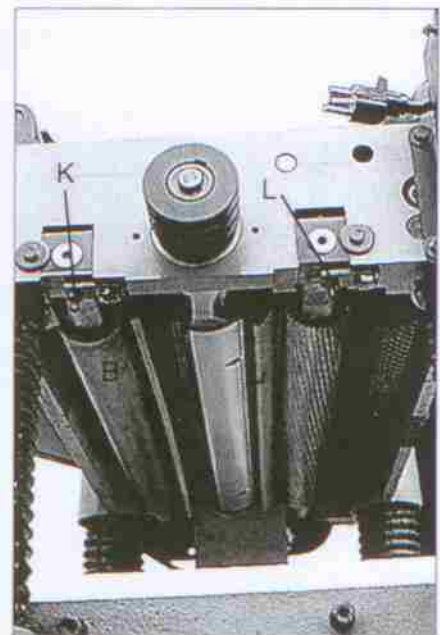

Fig.32
4. Move the gage block under one end of the outfeed roller (B) as shown in Fig.32. The bottom of the outfeed roller should just touch the top of the gage block. If an adjustment to the outfeed roller is necessary, loosen the lock nut (K) Fig.32, and turn screw (L) Fig.3 until the outfeed roller just touches the gage block. Then tighten lock nut (K) as shown in Fig.3.